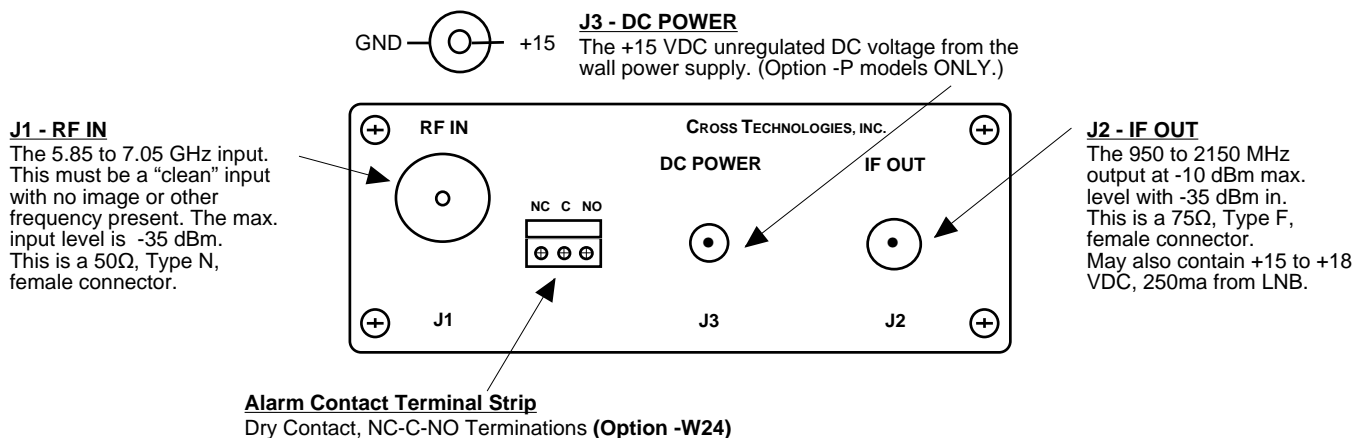

FIGURE 2.3 Model 2009-58 Rear Panel Inputs and Outputs
Figure 2.3 shows the input and output signals to the 2009-58.
1. For **-P** models, connect one end of the Wall Power Supply to the 2009-58 DC Power In, J3, and the other end to 115 VAC, 60 Hz (Figure 2.3).
2. Connect a -35 dBm, maximum signal to RF IN, J1 (Figure 2.3).
3. Connect the IF OUT, J2, to the receiver under test (For models powered from the LNB be sure that the LNB voltage is +15 to +18 VDC, 250 mA max.) (Figure 2.3).